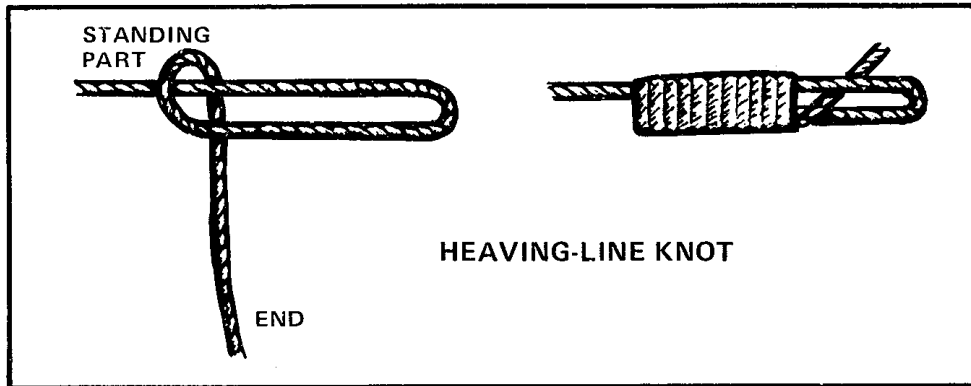

Figure 4-54 Heaving-Line Knot
2. **Heaving Line Knot** — (See Figures 4-54.) This knot is used as an alternative to the monkey's fist, and is quickly and easily made.